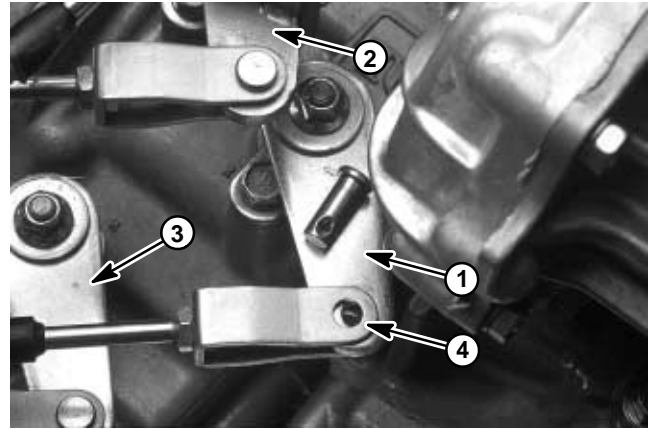

Figure 12
1. Remove clevis pin securing High-Low cable to transaxle (Fig. 12).